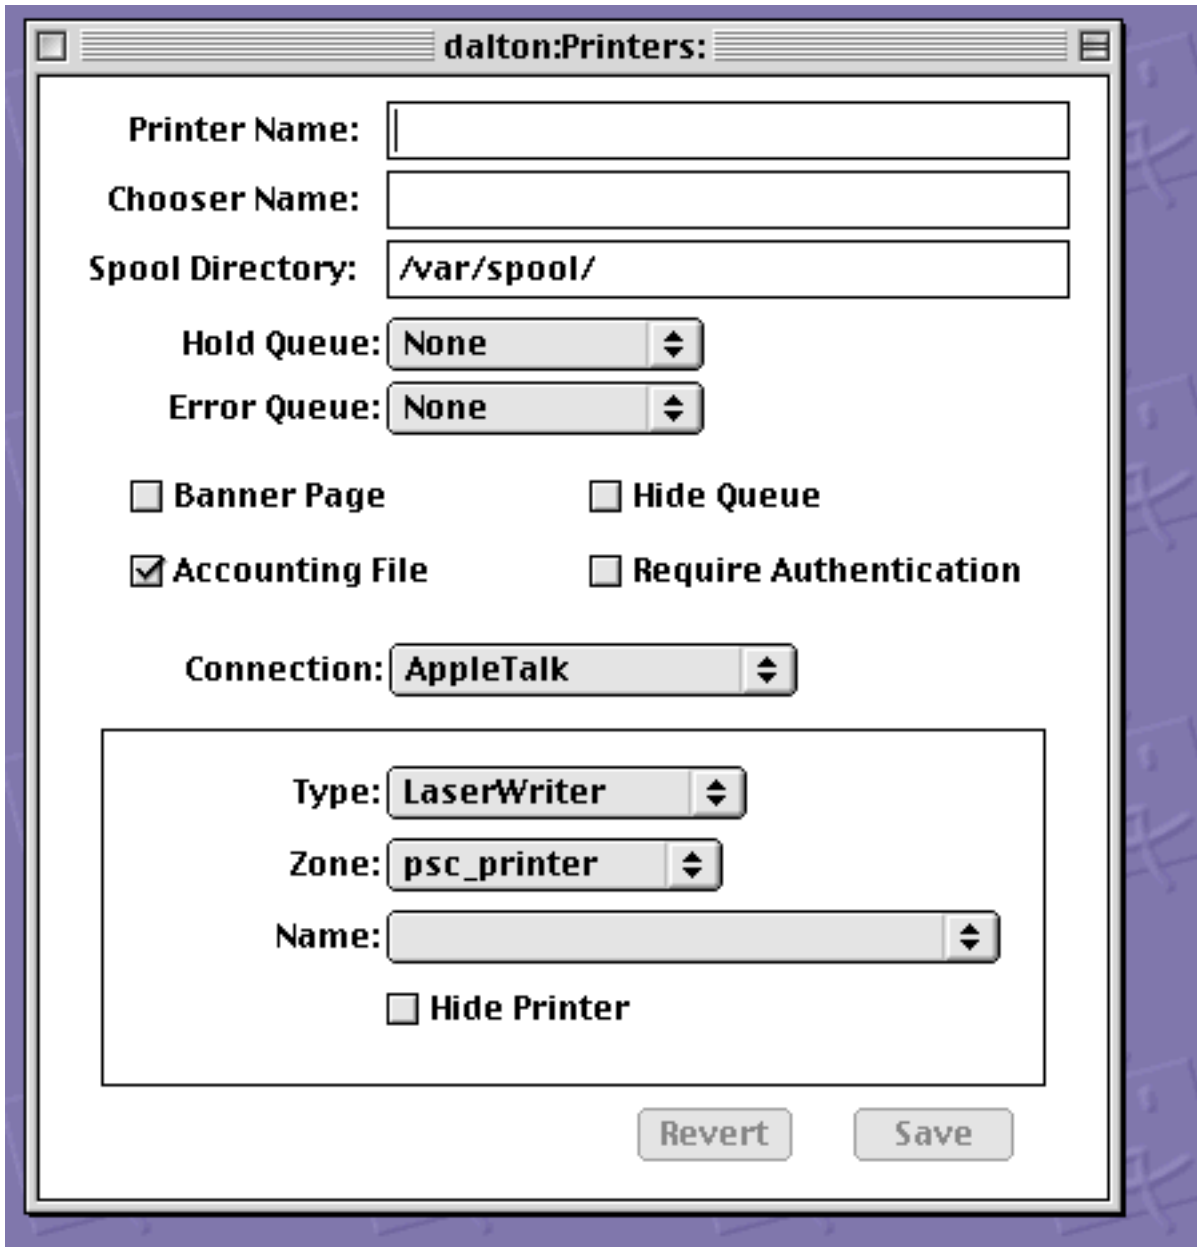

Figure 84. Print Queue window
4. From the window (displayed in Figure 84 on page 370, select a name for the printer and save the results.
where *queuename* represents the printer queue you created in Figure 84 on page 370 and *file.ps* is the name of the PostScript output file that resulted when you specified Print to File from your layout application.